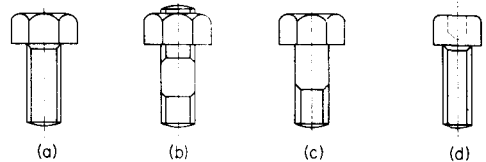

Fig. 3
- Which of the sketches in Fig. 3 shows a bolt?